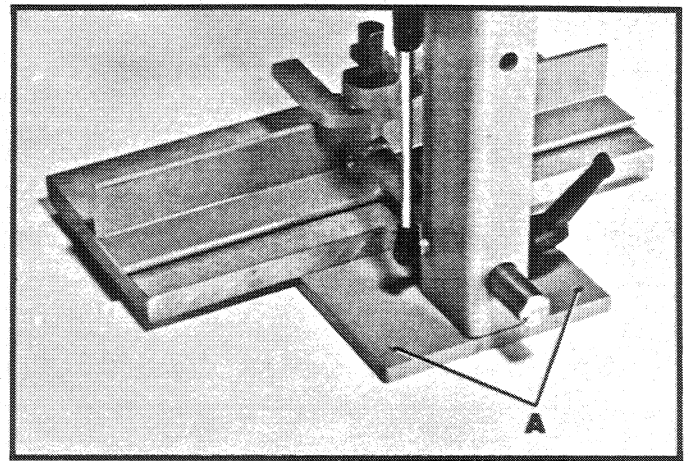

Fig. 18
This machine must be fastened to a supporting surface to prevent it from tipping during operation. Two holes (A) Fig. 18, are supplied in the rear of the base plate for this purpose.